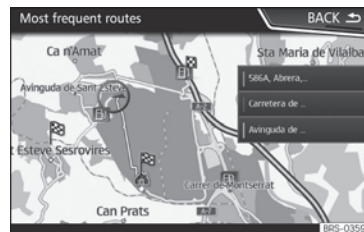

Fig. 237 Predictive navigation
- On the main screen of the Navigation menu, in the pop-up window, press the **Frequent routes** button. To display frequently followed routes press the **Show on map** button **Fig. 237**.